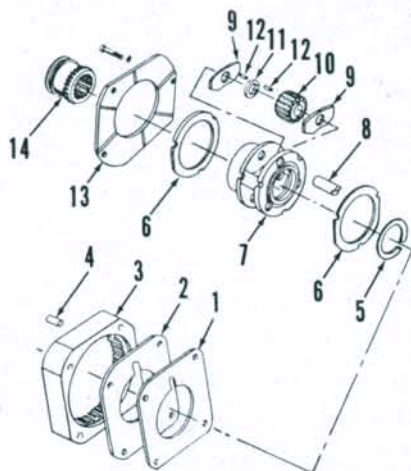

Fig. 197—Exploded view of high/low range planetary unit used on all models except MF255. See Fig. 198 for MF255 models.
**168. R&R AND OVERHAUL.** To remove the planetary unit, first separate transmission from differential housing as outlined in paragraph 156. Remove shift fork (Fig. 199) and coupler from rear of planetary. Remove the four retaining cap screws and withdraw rear cover (13—Fig. 197 or Fig. 198), rear thrust ring (6) and planet carrier (7). Pry planetary ring gear (3) with dowels from rear of housing. Remove front plate (2) and shim (1).
When reassembling, be sure to account for all of the needle rollers (12). On Models MF255, there are two rows of 27 rollers each and three spacer washers (11—Fig. 198). On all other models, there are two rows of 16 rollers each separated by one spacer washer (11—Fig. 197). Use petroleum jelly to hold rollers in place while pressing planet pins into carrier. Install snap ring (5), if equipped, so gap in ring is located between two of the pins.
When reinstalling planetary, be sure that front plate (2—Fig. 197 or Fig. 198) and rear plate (13) are positioned with